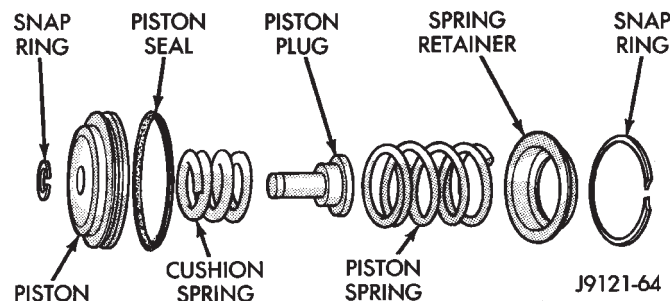

Fig. 155 Rear Servo Components
(1) Remove small snap ring and remove plug and spring from servo piston (Fig. 155).
(2) Remove and discard servo piston seal ring.